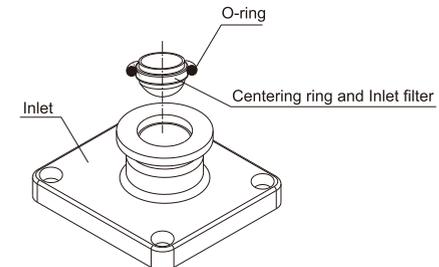

Fig. 8
- 1) Disconnect the vacuum system from the inlet port (refer to Fig. 8).